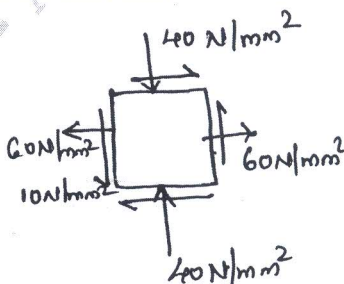

Fig.Q3(a).
- 3 a. The state of stress at a point in a strained material is as shown in Fig.Q3(a). Determine,